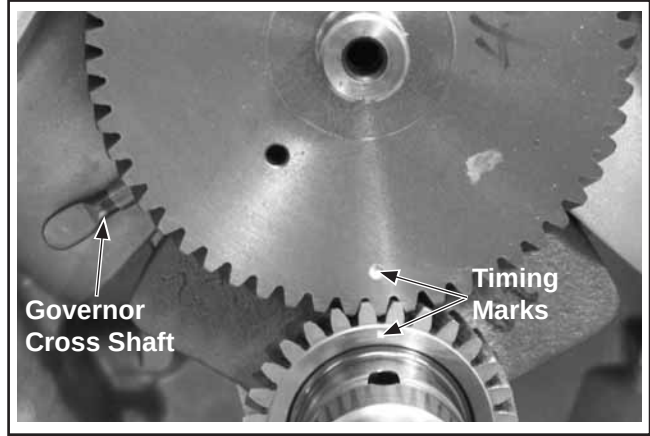

Figure 10-15. Aligning Crankshaft and Camshaft Timing Marks.
4. Turn the governor cross shaft clockwise until the lower end (blade) is laying against the bottom of the cylinder. Make sure the cross shaft remains in this position while installing the camshaft. See Figure 10-15.
5. Slide the camshaft into the bearing surface of the crankcase, positioning the timing mark of camshaft gear at the 6 o'clock position. Make sure the camshaft gear and crankshaft gear mesh with both timing marks aligned. See Figure 10-15.
4. Make sure the end of the governor cross shaft is lying against the bottom of cylinder inside the crankcase. See Figure 10-15.